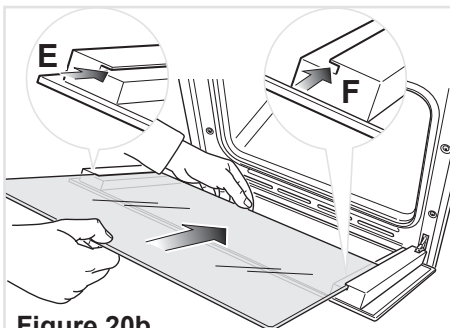
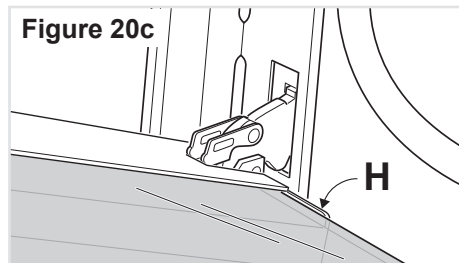

Figure 20b
Figure 20c
- Insert the pane in the left "E" and right "F" slide guides (fig. 20b), and gently slide it to the retainers "H" (fig. 20c).